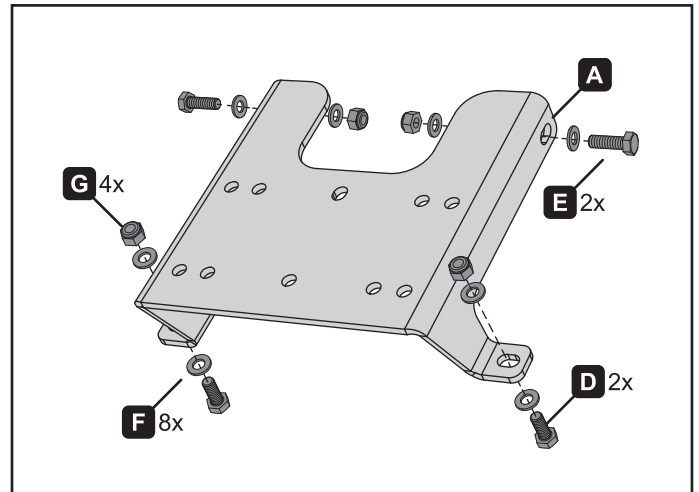

Figure 4.
3. Install winch mount (A) with bolts (D, E), washers (F) and nuts (G). See figures 4 and 5.